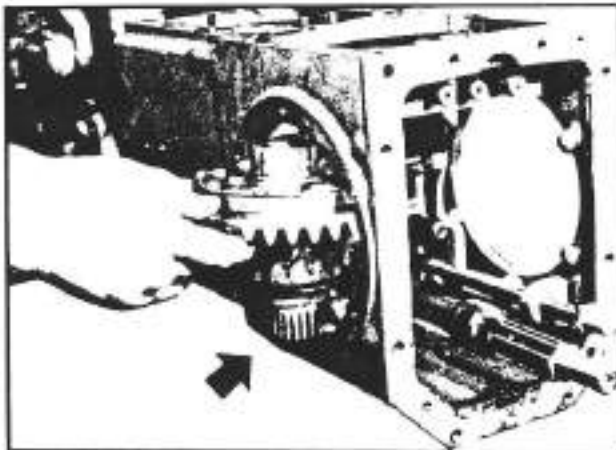

Fig. 3-25. Removal of the differential gear
- c. Extract the differential group (see figure 3-25).
In this case, the complete differential group can be removed from the top or through the front opening. In figure 3-25, the removal of the group is shown as for the case in which the overhaul does not include the removal of any other part such as the intermediate plate, or the housing cover.